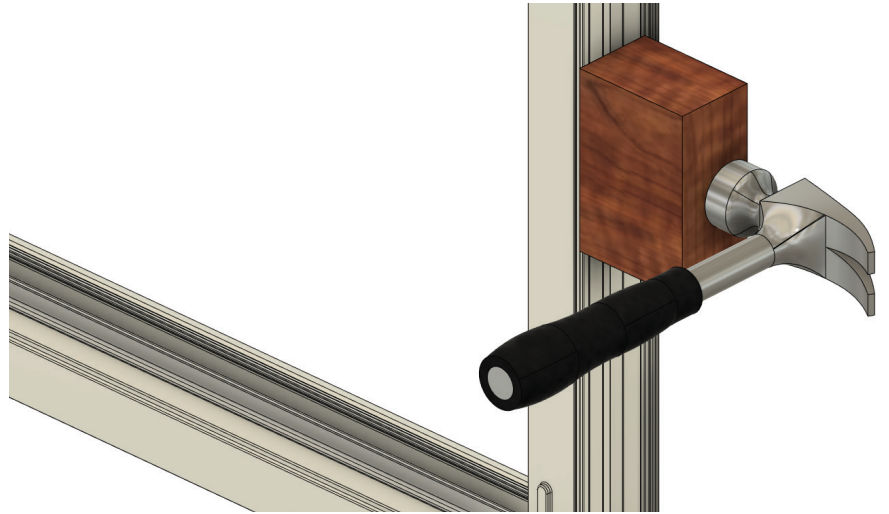
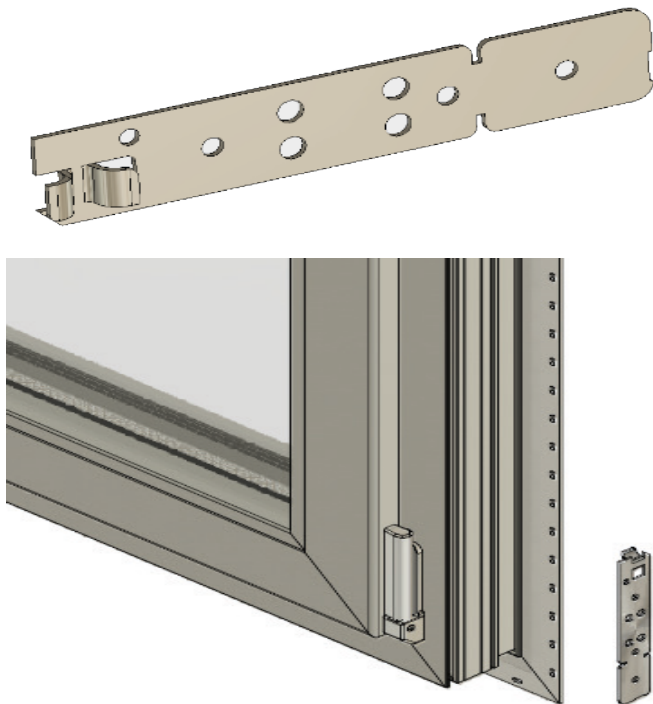

Figure 21
Figure 22
2. Inspect glazed units for bowing. If bowing is found it can be removed with a block of wood and a hammer. (Figure 21) (Bowing is typically caused by lifting by or setting on an unsuitable location of the frame.)
1. Anchor straps are first installed 150mm (6") from each corner. The anchor straps are installed by inserting them into the groove parallel to the frame and turning 90°. See Figure 22.
3. Once the sill is level, add additional shims under each mullion (Figure 21), under each jamb at any coupling (Figure 22), or as needed for additional support for very large windows and doors. Ensure the sill is not bowed either up or down.
Ensure there is no bowing in either plane. Unglazed frames can have bowing removed by adding shims or adjusting anchor straps. Glazed frames can have the bowing removed as described under “Inspection” (Figure 21).